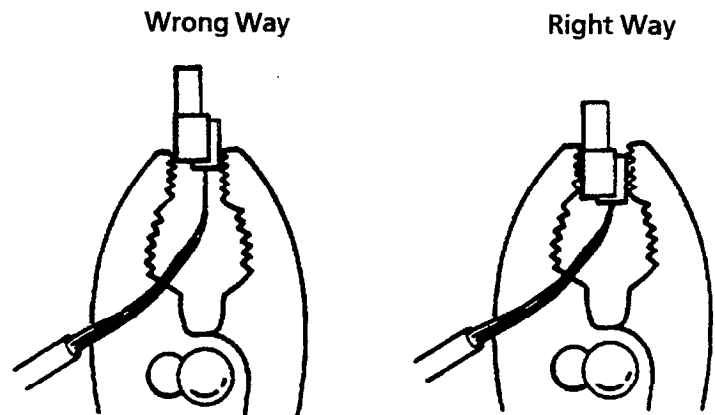

Figure 3-114 Holding the Connector with the Pliers
2. Lightly hold the connector with the pliers. In this case, make sure that the crimping portion is held between the lower portion of the jaws of the plier. Refer to Figure 3-114- Holding the Connector with the Pliers.